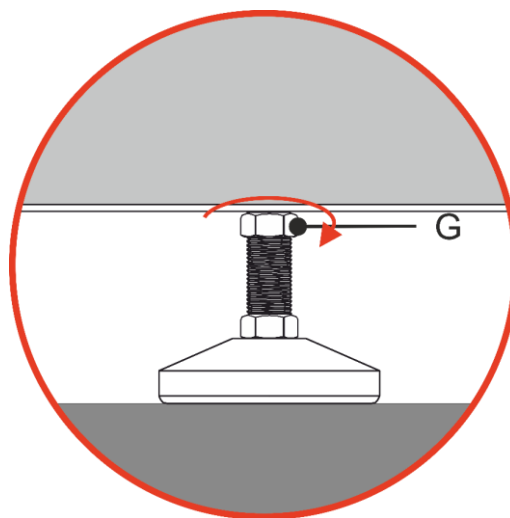

Fig. 49
- 02) Turn screw G clockwise until it reaches the bottom of the rigging bar, as shown in Fig. 49.